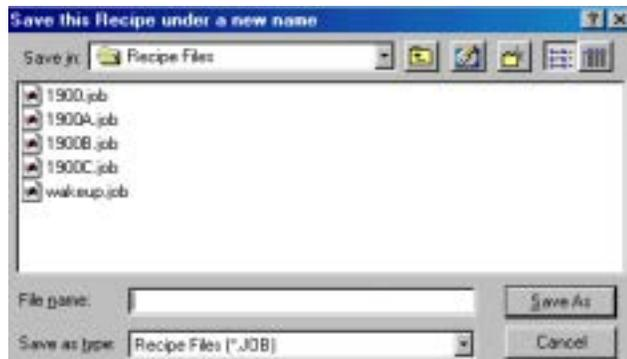

Figure 16
- c. Save As.. recipe will save an active recipe under a new file name. From the menu bar click Recipe then save as... Type a new recipe name in File name: and click Save As or depress the Enter key. **See Figure 16.**